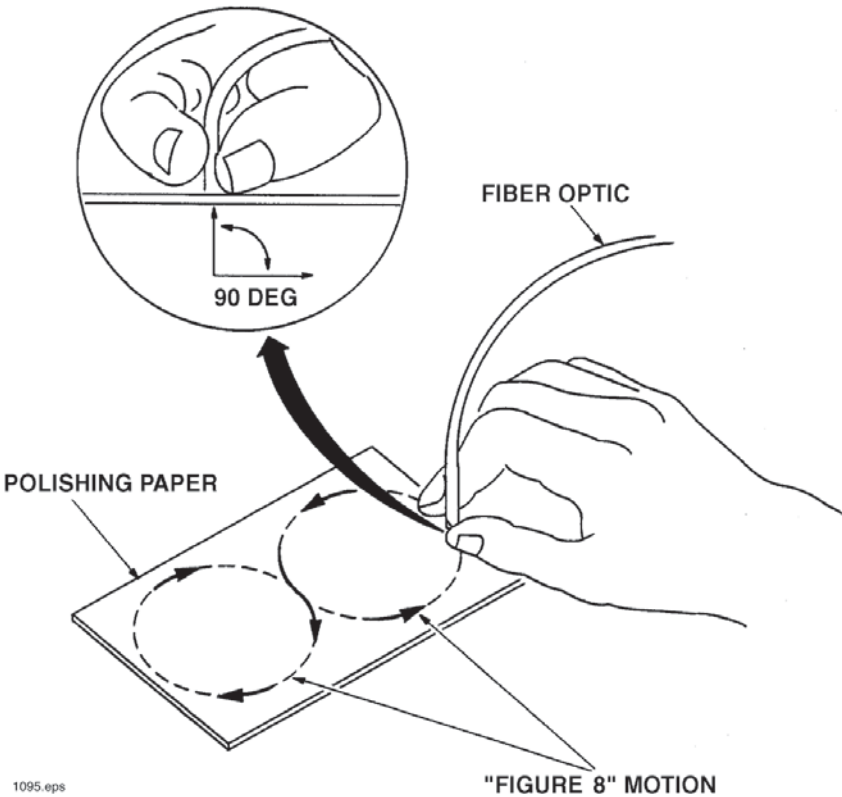

Figure 3. Pattern and orientation of the optical fiber during polishing.
2. Wet the polishing paper with water or light oil and place it on a flat, firm surface. Hold the optical fiber upright, at right angles to the paper, and polish the fiber tip with a gentle “figure-8” motion as shown in **Figure 3**. You may get the best results by supporting the upright fiber against some flat object such as a portion of the printed wiring board.